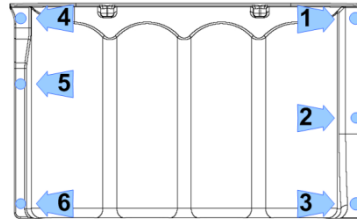

Figure 31 – Capacitor Cover Torque Sequence
30. Peel the paper backing off the new phenolic washers and place them, adhesive-side down, on top of the compressor. (Refer to Figure 31 (Soft Start Placement).